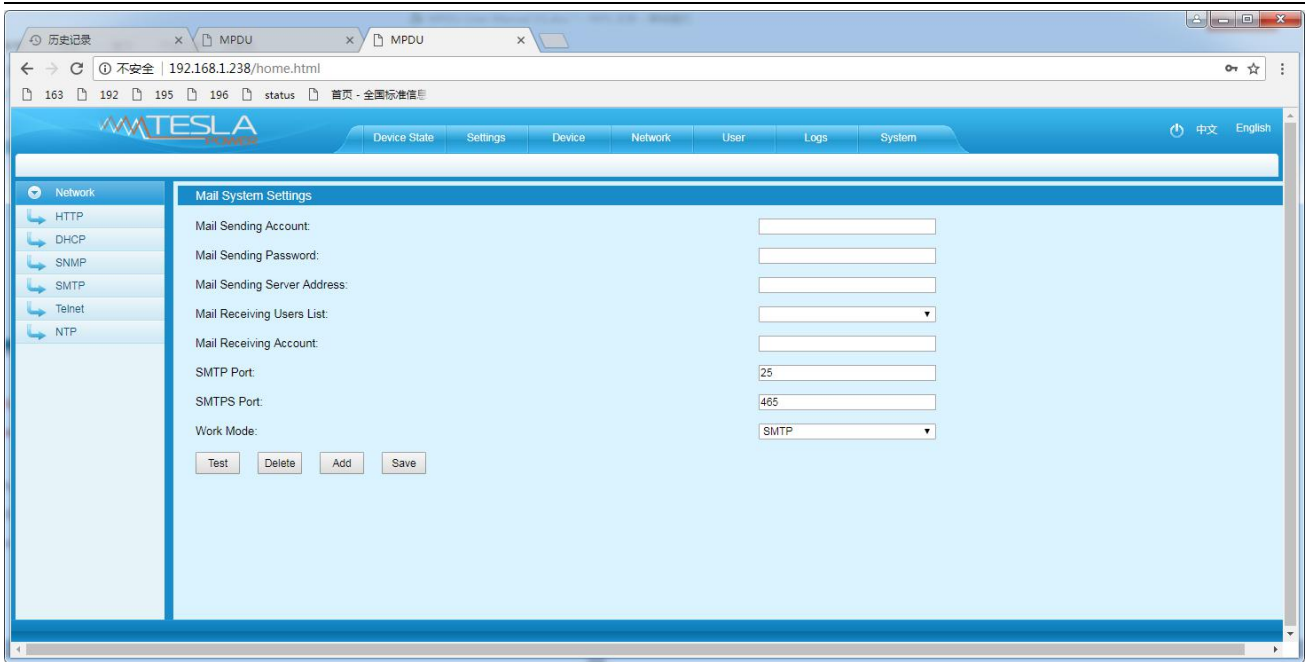

Figure 1-12
5) SMTP settings: Click SMTP from the network navigation tab to enter the SMTP setting as figure 1-12